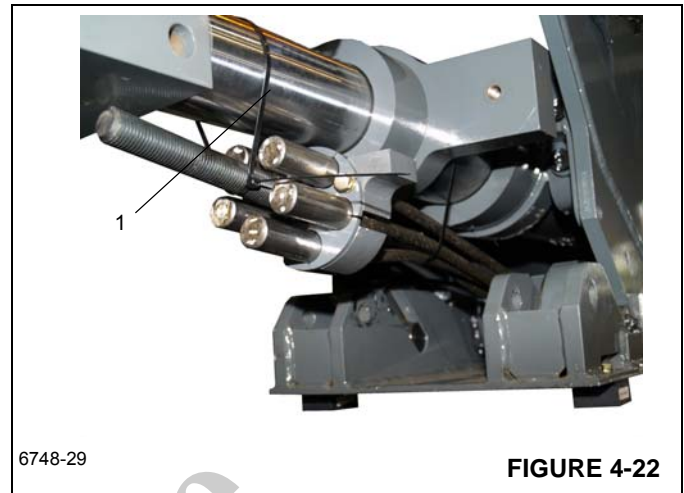

FIGURE 4-22
10. Secure the extend cable keeper plate and adjustment bolt to the tele cylinder with cable ties (Figure 4-22, 1) or tape. Failure to do so may allow the cables and keeper to become jammed during disassembly.